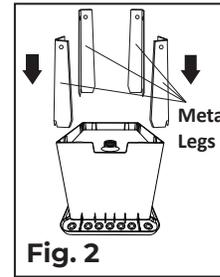

Fig. 2
2. While the tub is still upside down, insert the 4 steel legs into each corner socket (see Fig. 2).